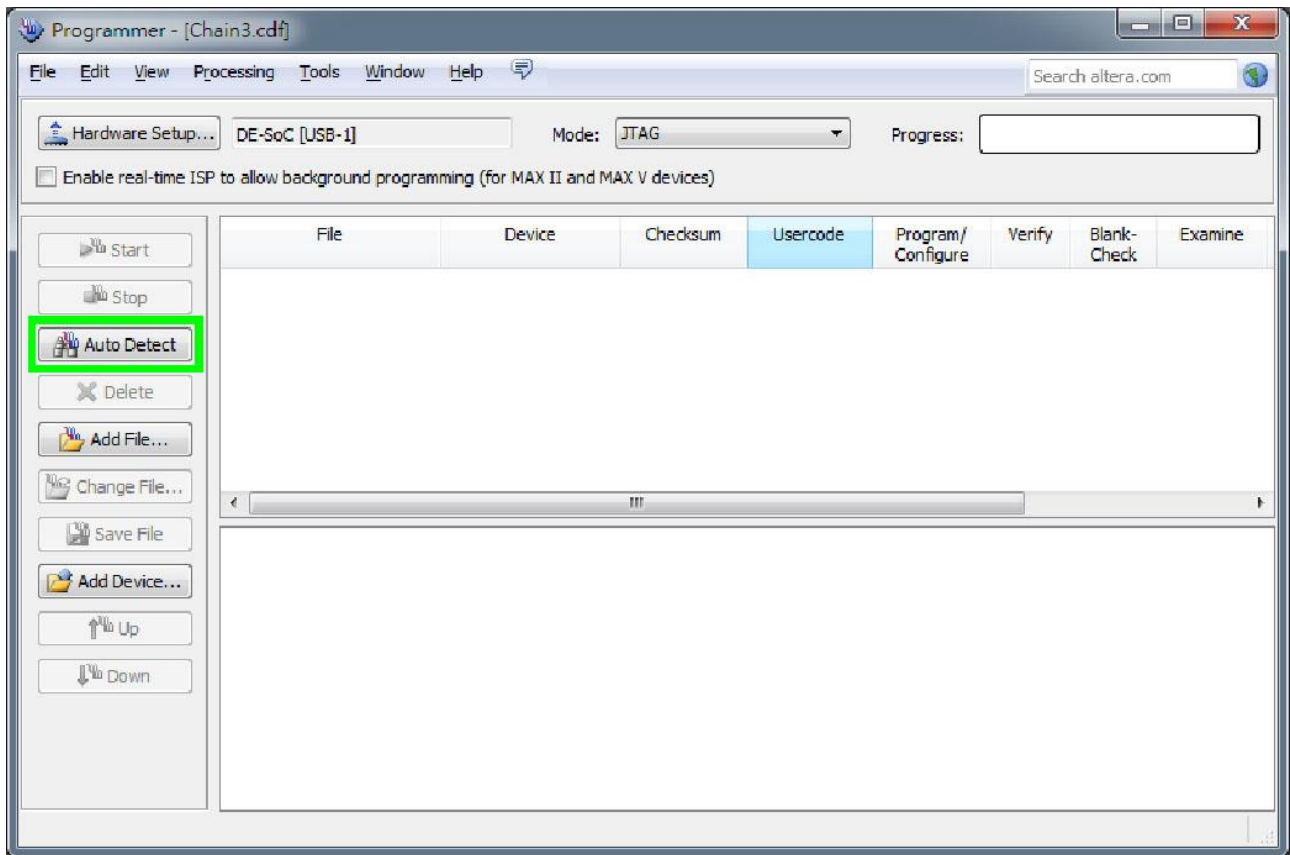

Figure 3-7 Detect FPGA device in JTAG mode
2. Open the Quartus II programmer and click “Auto Detect”, as circled in Figure 3-7